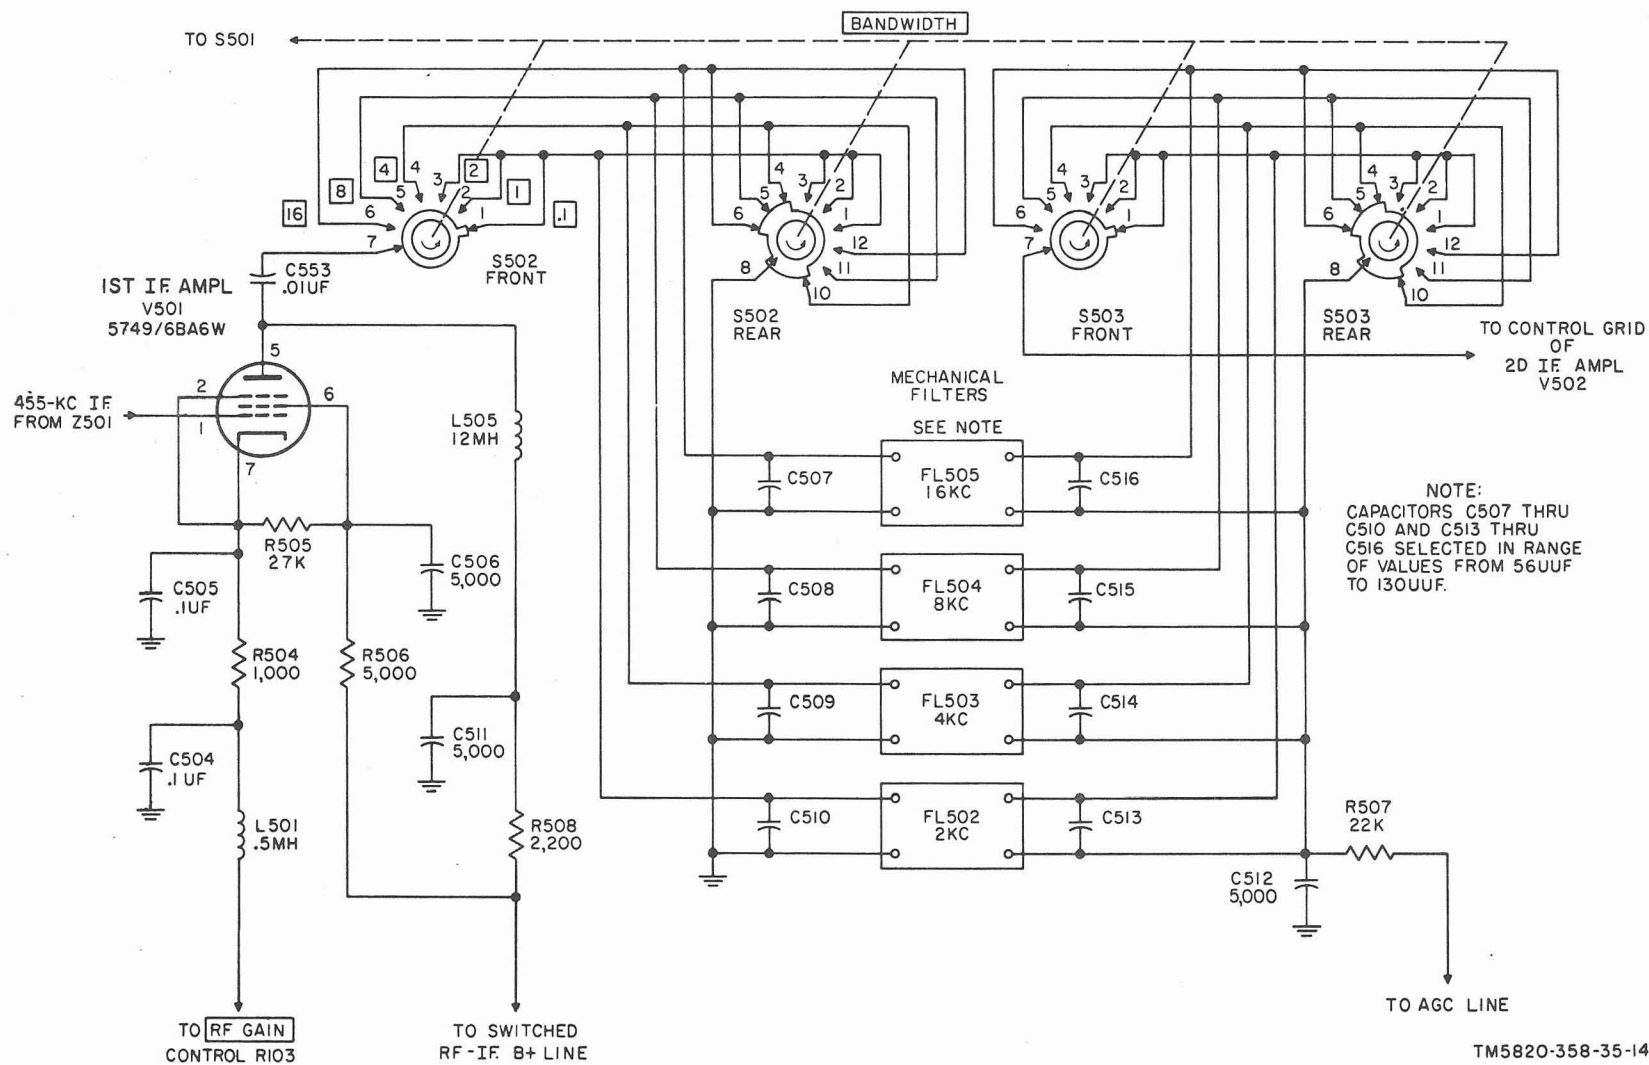

Figure 12. First if. amplifier V501, simplified schematic diagram.
15. First If. Amplifier V501 and Mechanical Filters (fig. 12)
a. The control grid of V502 is returned to the agc line through S503 (front) and the selected mechanical if. filter (fig. 12). The control grid of V503 is returned to the agc line through L507 of T501 and R516. The control grid of V504 is returned to ground through L511 (secondary of T502). The screen grid of V504 is fed from the switched rf-if. B+ line through the decoupling network consisting of R525 and C529. The B+ voltage for the plate circuits of V502, V503, and V504 is fed through the primary coils of T501, T502, and T503, respectively.